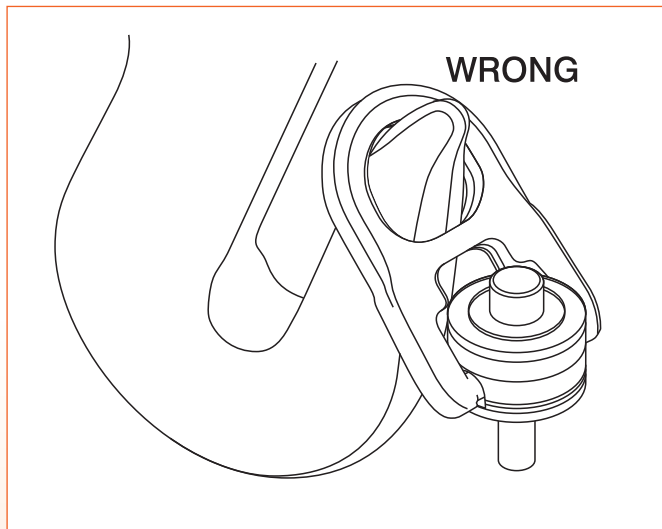

Fig. 1.
- Attach lifting device ensuring free fit to hoist ring bail (lifting ring) (Fig. 1).